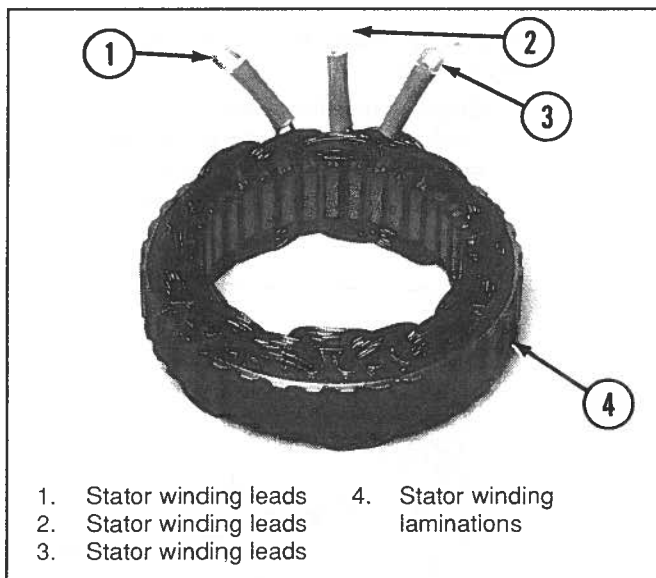

Figure 6-80. Testing Stator Windings
7. Test stator windings as follows (Figure 6-80):
- b. Check resistance from each lead (1, 2, and 3) to the laminations (4). There should be no continuity if the insulation is good.